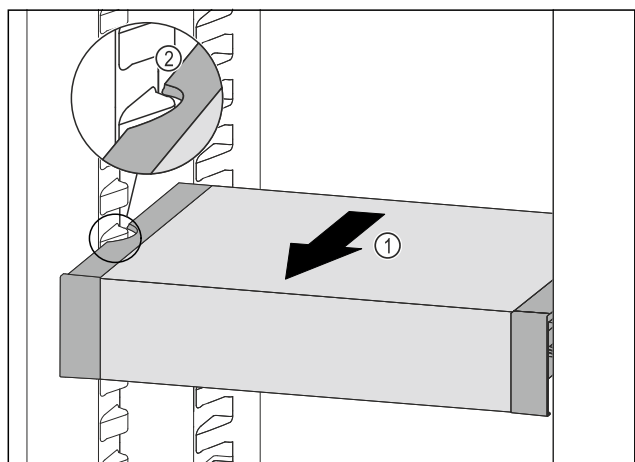

Fig. 45
- ▶ Pull VarioSafe forwards *Fig. 45 (1)* until the recesses in the side of the VarioSafe are at the level of the support rib in the refrigerator compartment. *Fig. 45 (2)*